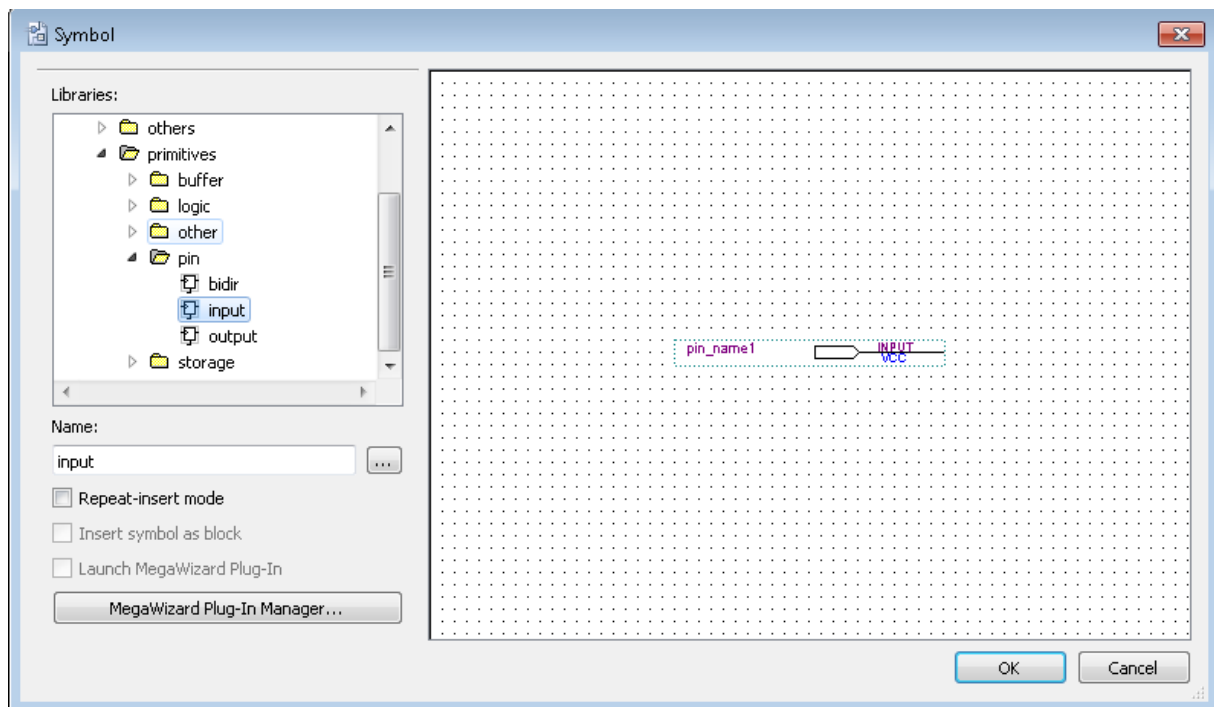

Figure 3-17 Input pin symbol
- b. Under Libraries, select quartus/libraries > primitives > pin > input. See Figure 3-17